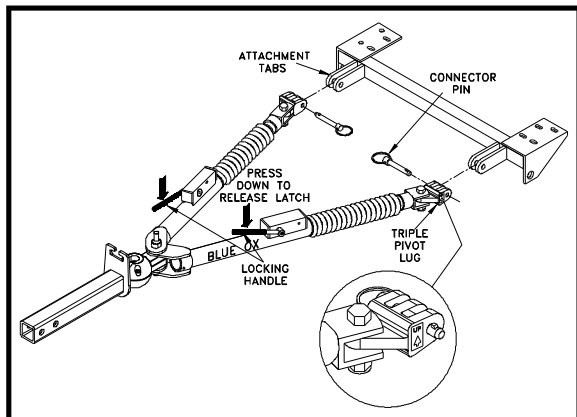

Figure 5
3. Partially extend one leg. The legs are held in with an internal "soft" latch. Pulling out on the leg will disengage this latch. Place the triple lug between the attachment tabs on the baseplate, and secure with the 1/2 pin. Be sure the head of the pin is positioned so that it is to the inside of the triple lug. See Figure 5. Repeat for both legs.
2. Disengage the leg latches by pushing down on the locking handles. (Figure 5) Remove the quick pins and 1/2 pins attaching the triple lugs to the attachment tabs. You may need to tap the 1/2 pins out if there is still pressure on them. Compress both legs completely until they lock in place.